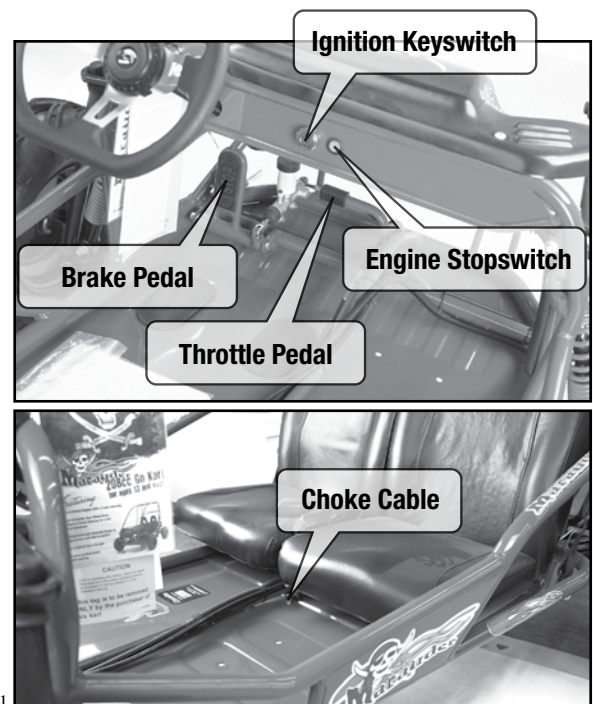

fig. E1
E. Engine Starting (see fig. E1)
E. Driver Pulley Lubrication and Cleaning (see fig. E1)